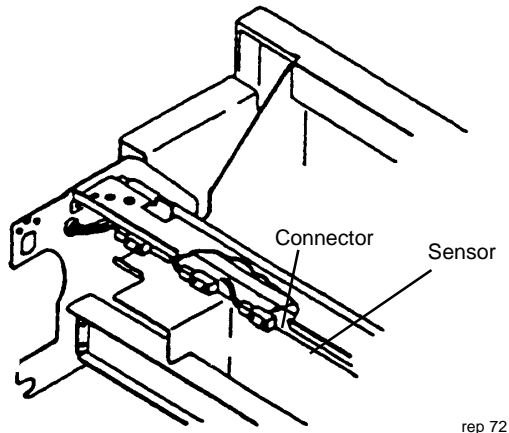

Figure 2. Removing the Sensor
8. (Figure 2): Remove the screw remove the sensor, and disconnect the connector.